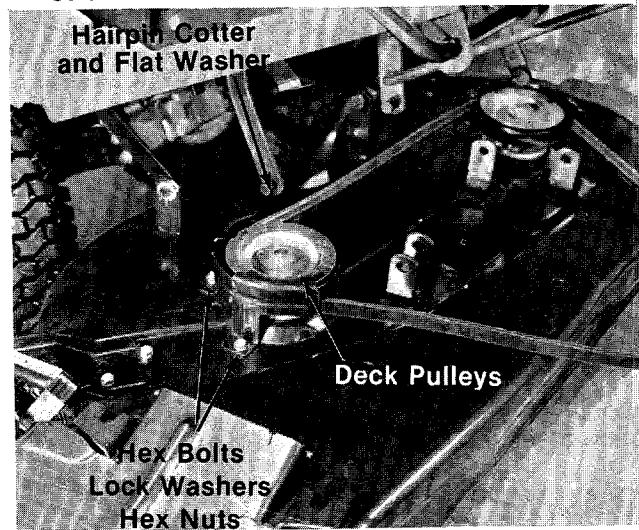

FIGURE 27.
5. Disconnect the six deck links by removing the hairpin coppers and flat washers. See figure 27.
7. Remove the belt guards at each deck pulley by removing the hex bolts, lock washers and hex nuts. See figure 27.